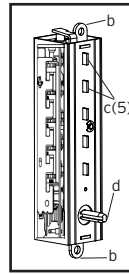

Figure 7-5.
- 8) Hold the chamber in one hand by the screw tabs (b) on each end with the key-stems (c) facing you and the control shaft (d) at the bottom **(See Figure 7-5)**.
- 9) Using pliers or equivalent, rotate the control shaft (d) counterclockwise and release to clear the chamber **(See Figure 7-5)**.